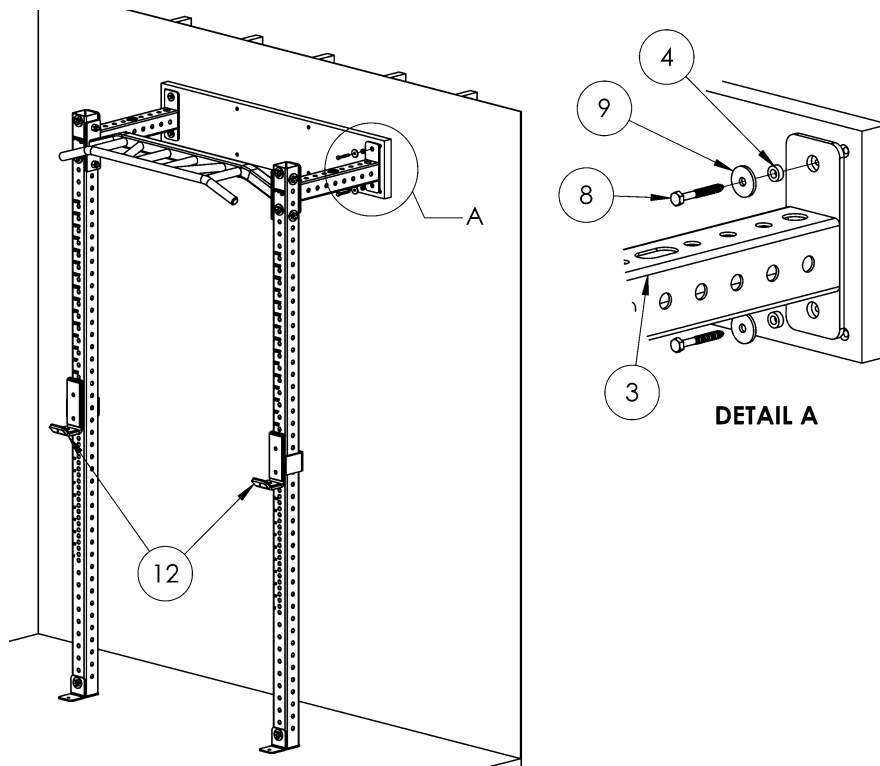

Figure 3
1. Once the Ledger Board is installed, place your assembled rack against the ledger board as shown. **Figure 3**
4. Attach rack to wall with hardware provided. **Figure 3, Detail A**